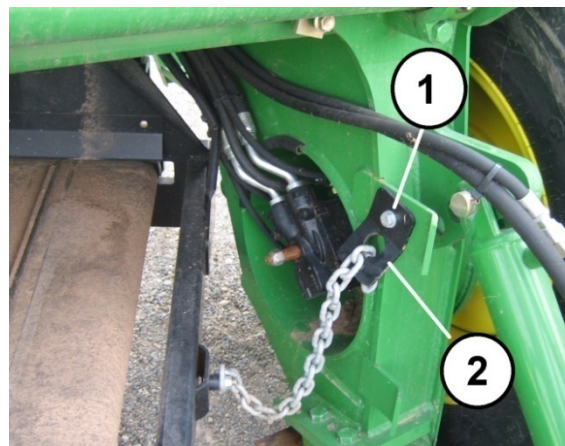

Figure 10. Chain Bracket Installation
Install the RC0431 Chain Support bracket using one (1) M12 x 40 bolt, two (2) M12 Washers and one (1) M12 Nut as shown in Figure 10.